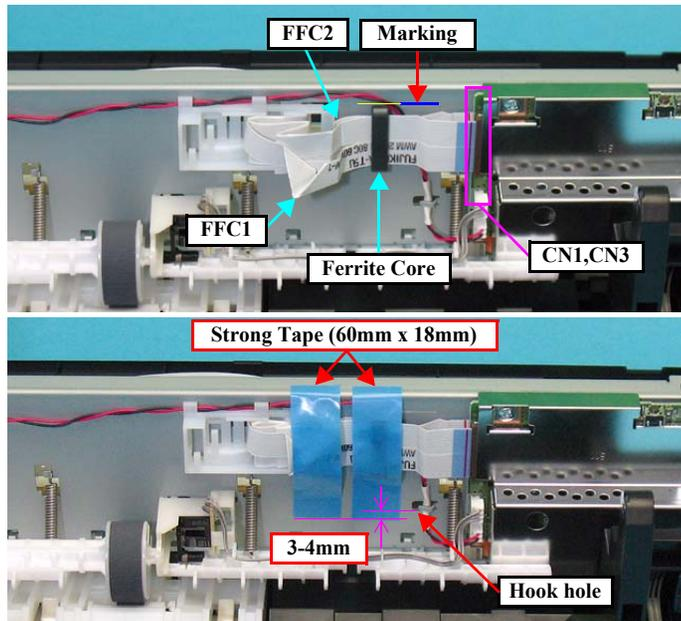

Figure 4-34. Installing Head FFC (6)
2. Place the Cap Assy and match the tabs (x2) and lock them. (Figure 4-34)